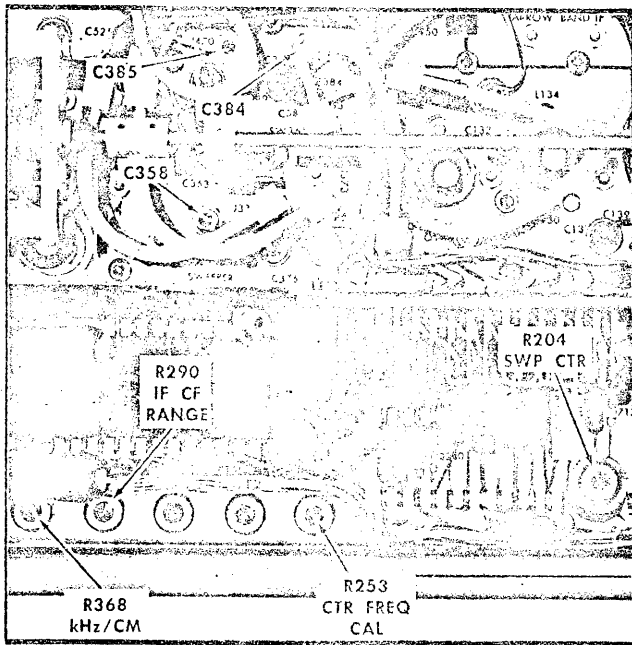

Fig. 6-4. Location of sweeper and discriminator adjustments.
- c. Adjust the IF CF Range R290 (see Fig. 6-4) for 0.75 volts  $\pm 0.1$  V of trace deflection on the test oscilloscope.
- g. Adjust the Center Freq Cal R253 (Fig. 6-4) for minimum IF signal shift as the DISPERSION selector is switched between the 10 MHz and .2 MHz positions. The DISPERSION RANGE switch must be in the MHz/CM position for this adjustment.
i. Adjust the Sweep Center R204 (Fig. 6-4) to position the 200 MHz signal at the graticule center line.
d. Adjust the DISP CAL R208 for a 1 marker/centimeter over the center 8 graticule divisions, then adjust C358 (Fig. 6-4) for optimum display linearity.